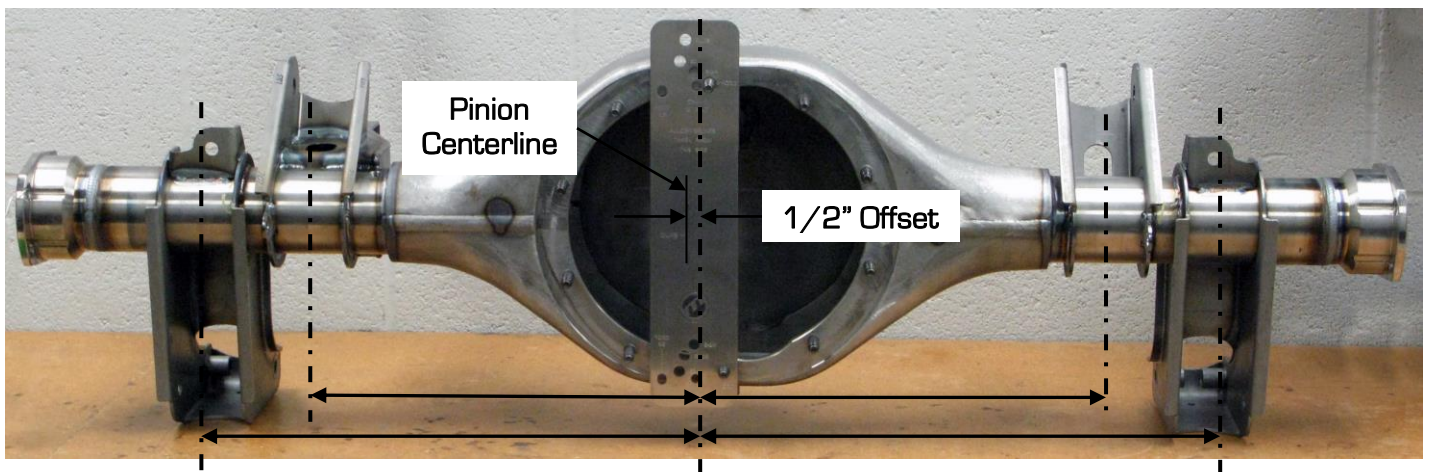

Figure 3 - Axle Bracket Location
3. The 1/2" offset imaginary line will be the centerline of your axle housing to install the QUADRALink axle brackets, mark this line on the tool (Figure 3).